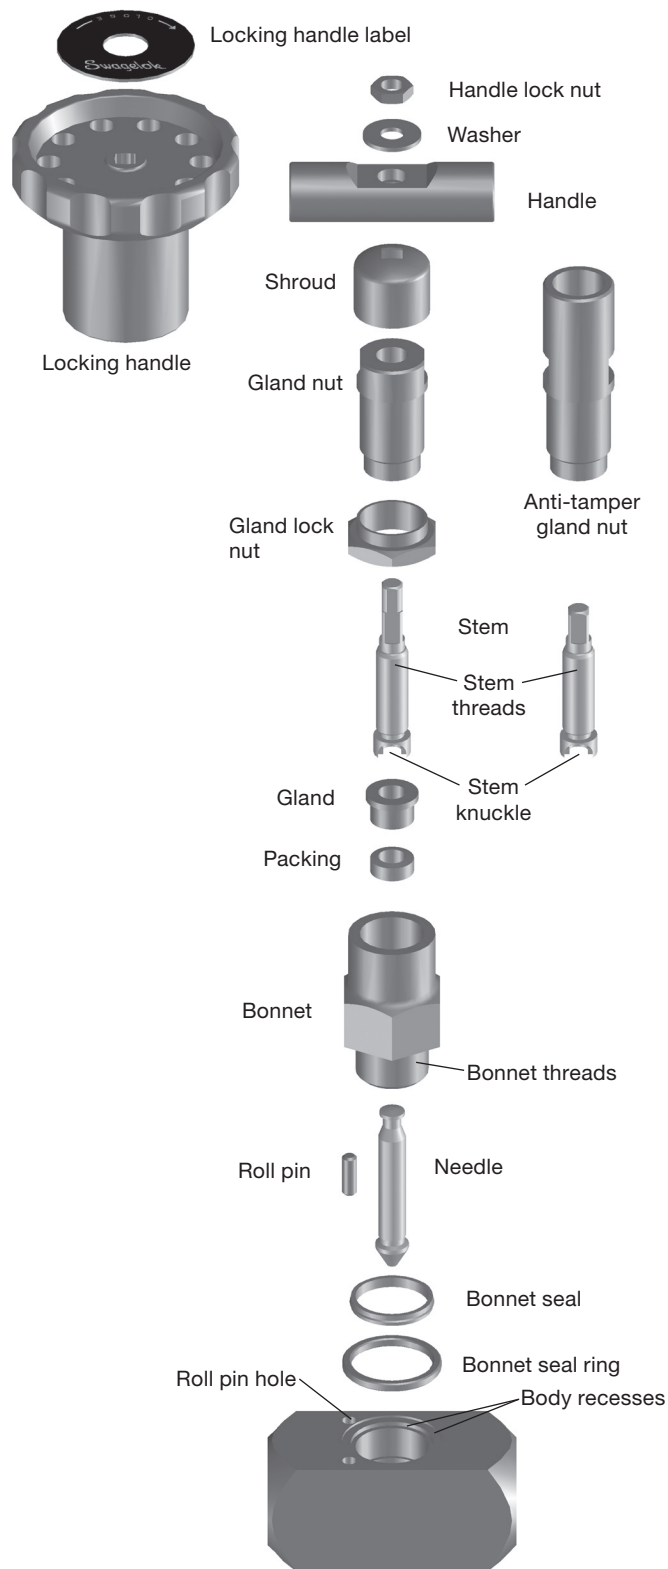

Fig. 2
11. Place a **new packing** and the **gland** over the **needle** and into the **bonnet**, oriented as shown in Fig. 2.